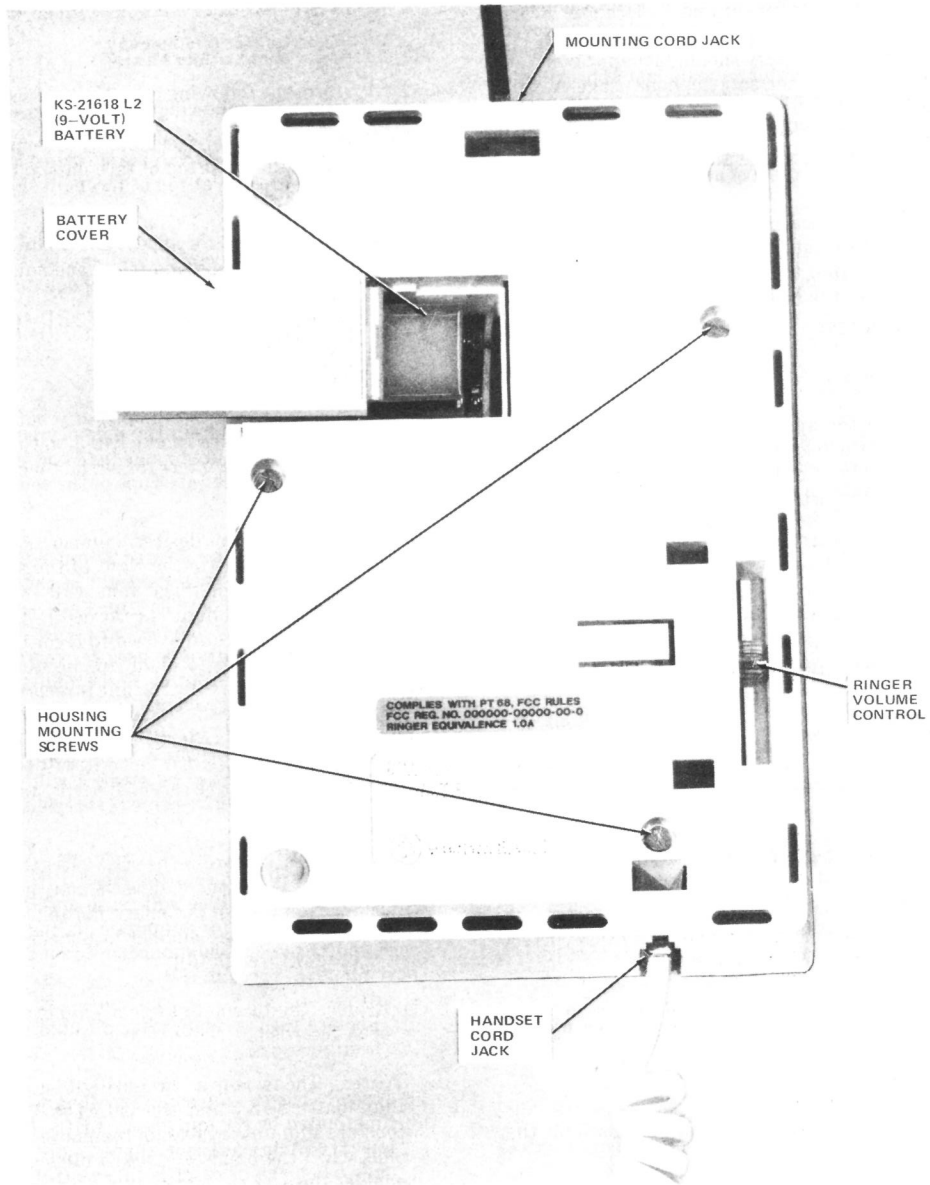

Fig. 3—5001T01A Telephone Set, Bottom View
the necessary connections (Fig. 3). Place the battery in the battery compartment and replace the cover.
3.03 Plug one end of the mounting cord (D4BU) into the modular jack in the rear of the set and the other end into the 625-type modular connecting block. Connect the handset cord to the set (Fig. 3).
(1) Dial the appropriate code for ringback to test the telephone set tone ringer. Move the ringer volume control lever (Fig. 3) on the bottom of the set to check variation of volume. There is no provision for ringer cutoff using the volume control.
(2) Call the CO dial test line, when connected press the dial buttons in sequence 1 through 9, *, 0, and # verifying that correct signals is returned from the CO.